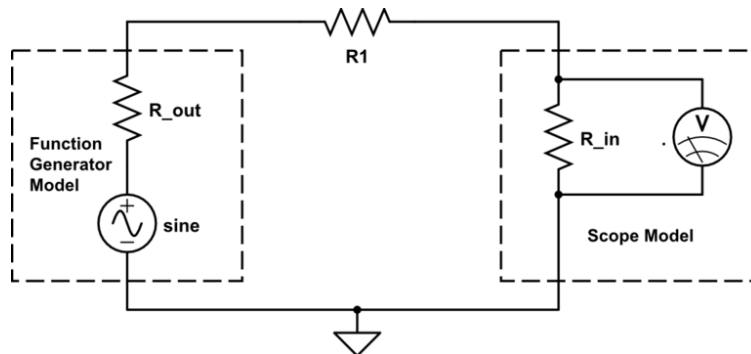

Figure 4: Oscilloscope's internal resistance in series with a external resistor
- Connect the function generator (set to 1 kHz) and scope as shown in figure 4, once again using your resistance decade box for  $R_1$ . (The internal resistance of the function generator is much less than 1 k $\Omega$  so we can ignore it for this part.)